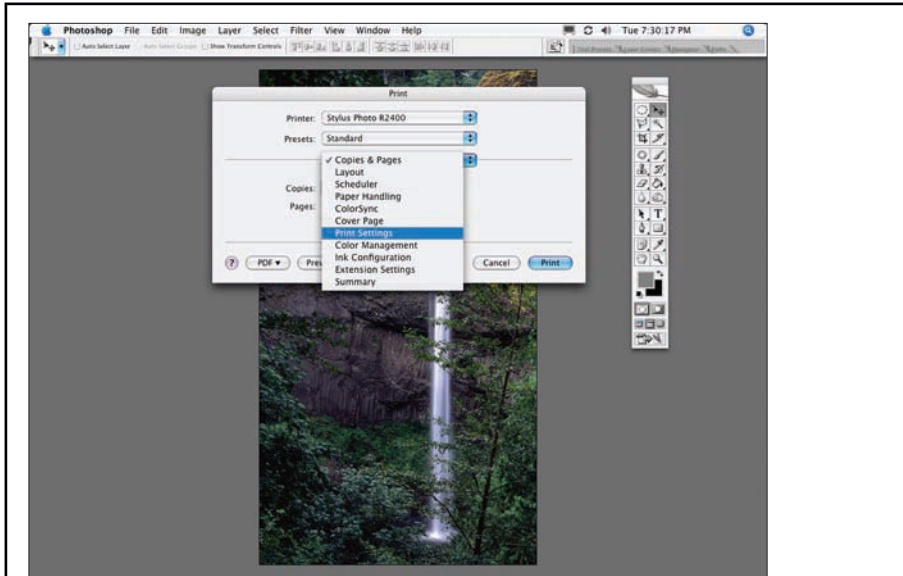

Figure 6.7
2. Next, choose File>Print with Preview. This opens a new dialog box that looks like Figure 6.7.